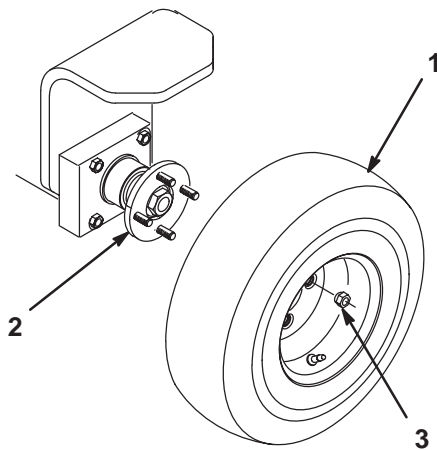

Figure 1
1. Mount the wheel assembly onto the rear wheel hub (Fig. 1).
2. Install the lug nuts (Fig. 1) and tighten them to 45–65 ft.-lb. (3–5 N·m).